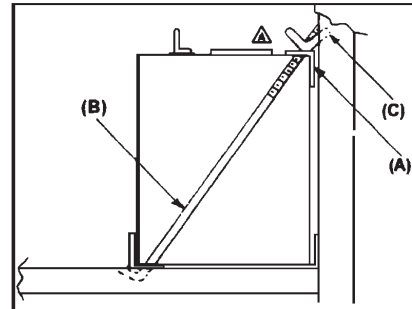

Figure 3
2. Place battery bracket (A) over battery as shown in Figure 3 (opposite battery terminals).